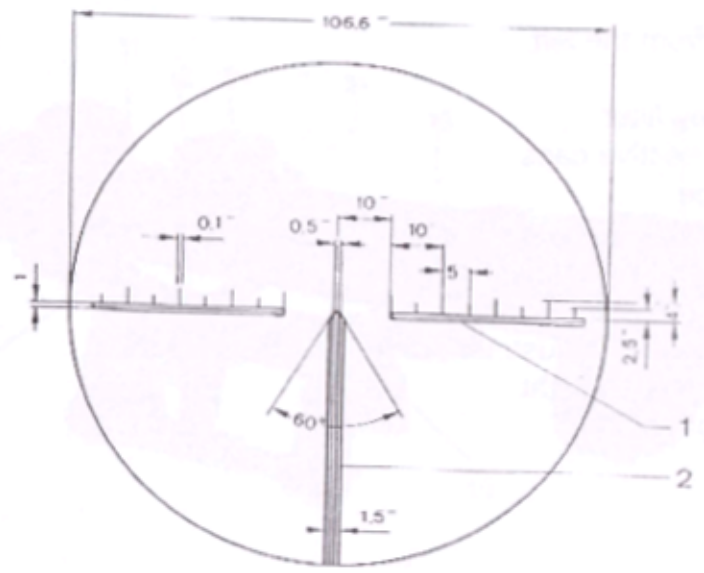

Fig. 5 FERRO-Z 24
2.3 Putting Telescope Sight into Operation and Boresighting (Fig. 5)